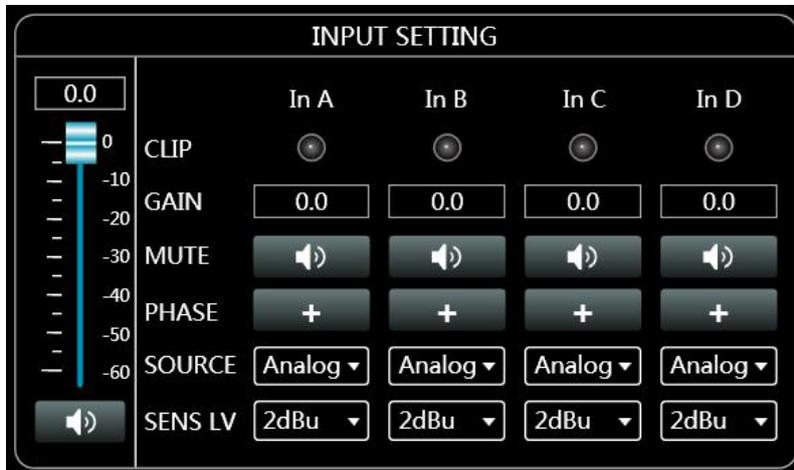

Figure 6.4
①As shown in Figure 6.4 above,  is the master volume slider, you can drag it with the mouse,